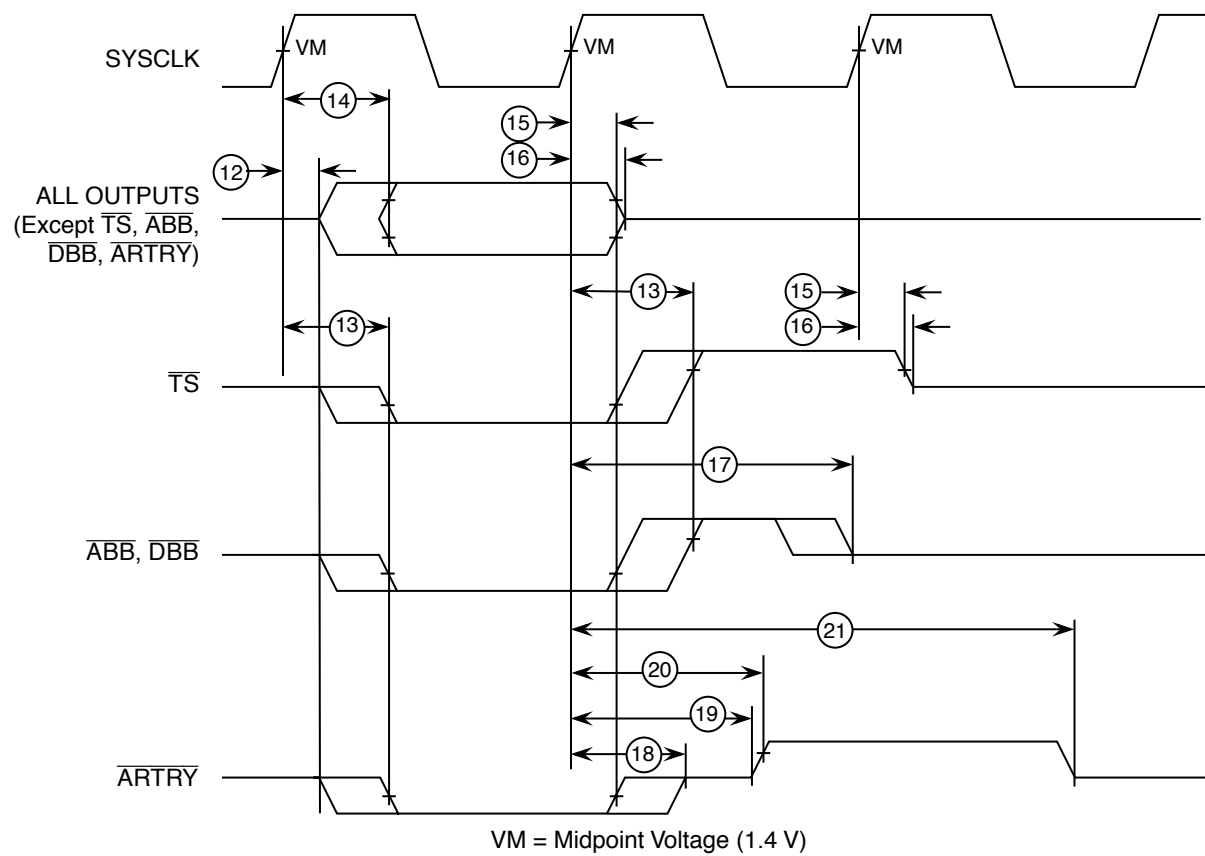

Figure 4. Output Timing Diagram
Table 8 provides the output AC timing specifications for the PID7t-603e as defined in Figure 4.
1. All output specifications are measured from the 1.4 V of the rising edge of SYSClk to the TTL level (0.8 V or 2.0 V) of the signal in question. Both input and output timings are measured at the pin (see Figure 4).
Figure 4 provides the output timing diagram for the PID7t-603e.